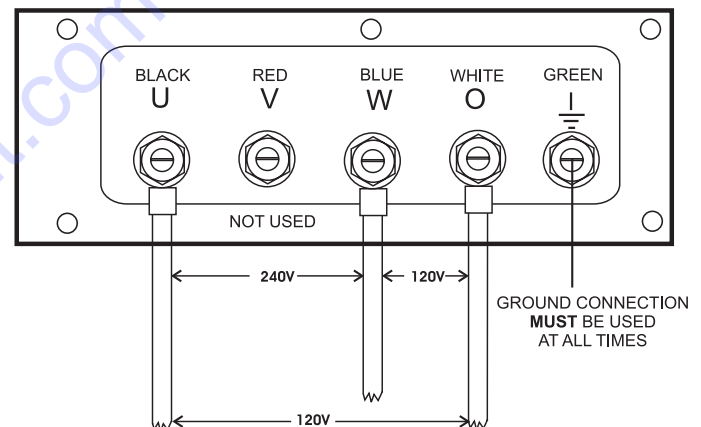

Figure 27. Output Terminal Lugs 1Ø-240V/120V Connections
2. Connect the load wires to the **Output Terminal Lugs** as shown in Figure 27.